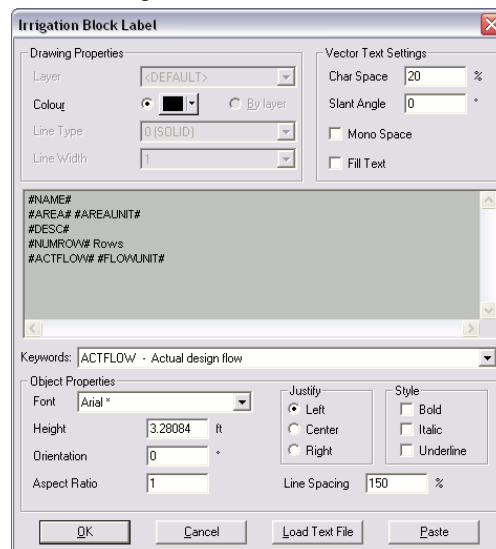

Figure 4-35
18. Click [OK] when you have finished entering the text, the dialog should look like Figure 4-35 below.